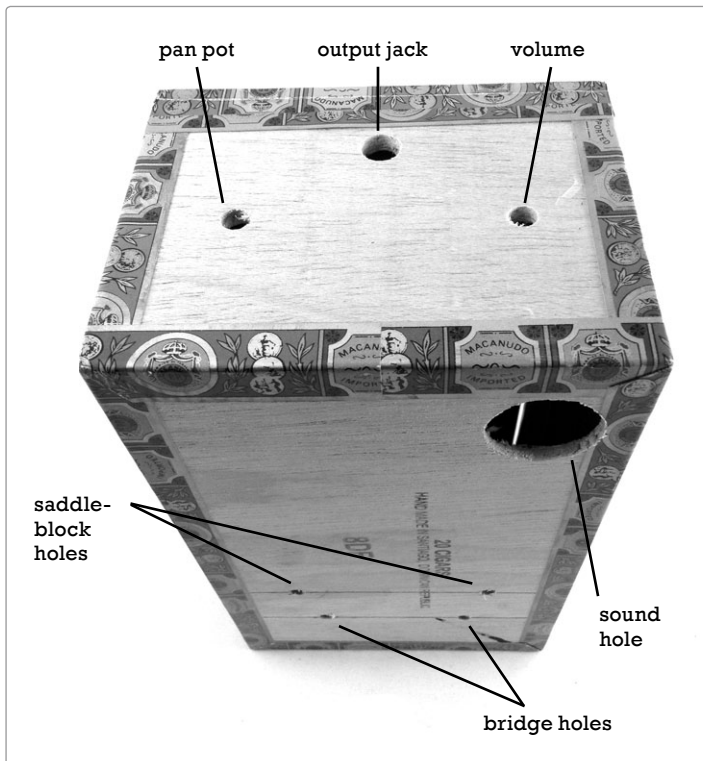

FIGURE 11-9: Location of the holes for the volume, pan pot, and jack
Next, drill one 3/8-inch hole for the jack. I placed all three holes on the tail-piece, as shown in Figure 11-9, but you could drill them almost anywhere. Just don't mount them on the soundboard, as that will take a real bite out of the kalimba's sweetness.
Step 25 When your 30-minute wait is up, carefully remove the rubber band that's holding the magnetic pickup in place, as it's also holding the box shut. Now, mount one pot in each of the smaller holes shown in Figure 11-9 and then mount the jack in the larger hole. The washers go on the outside of the box, between the wood and the nut. If a little post protrudes from the face of either pot's casing and that post starts getting in the way, just snap it off with a pair of needle-nose pliers, as discussed in "Resistors: Fixed and Variable" on page 325.